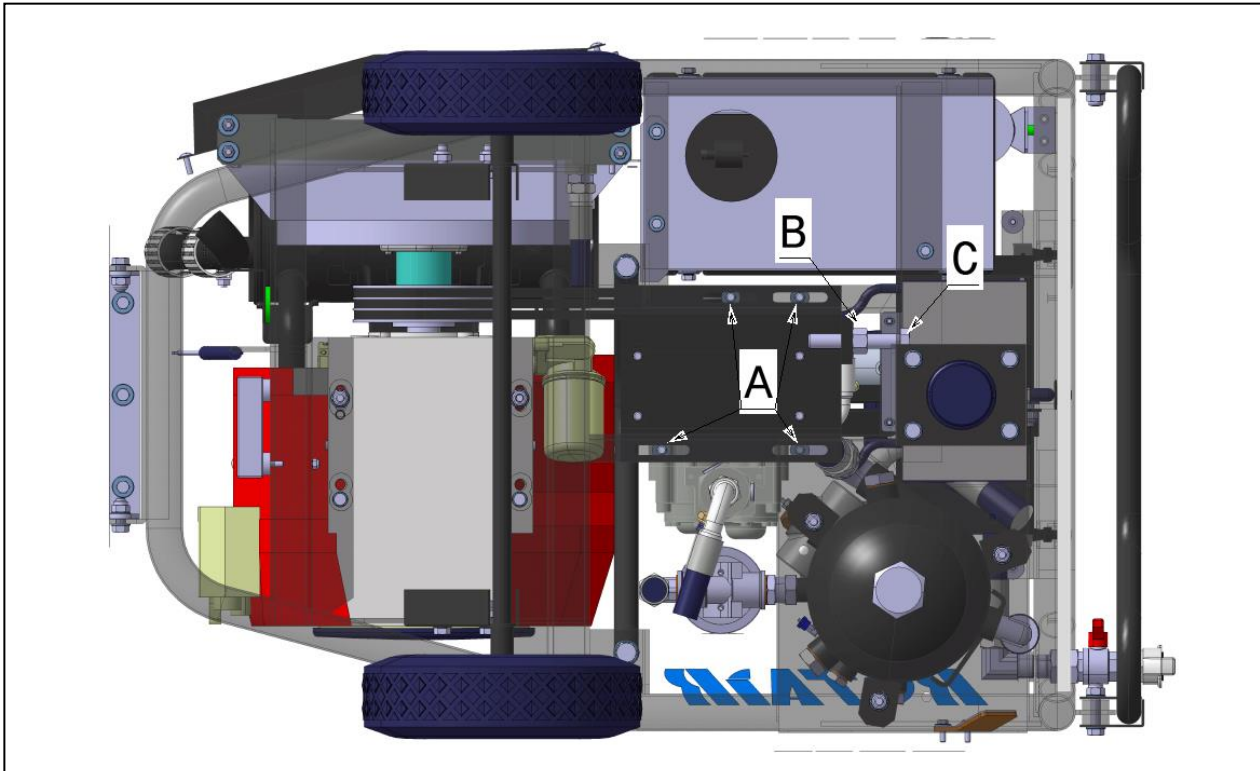

Fig. 12.10-2
To regulate the belt tension it is necessary to proceed as follows (Fig.12.10-2 Motorized compressor seen from below)
2. Loosen the screws (part.A fig.12.10-2)
3. Loosen the counter-nut (part. B fig.12.10-2)
4. Fully loosen the tensioning screw (C) using a lever to push the compressor unit towards the engine until the belts come out without any problem.
6. Tighten the regulation screws (C) to obtain the correct level of belt tightness
7. Firmly tighten the counter-nut (B)
8. Tighten the fixture screws (A)